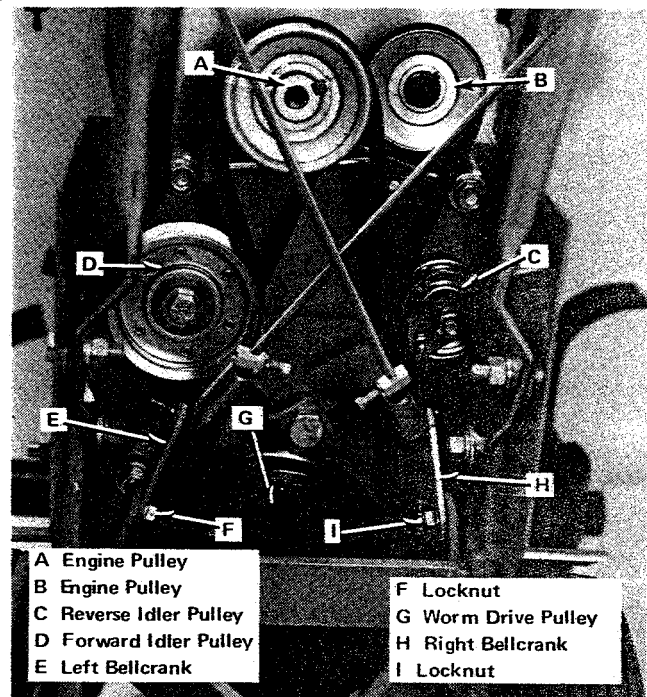

Figure 13. Drive Belt Replacement
1. Loosen the two belt stops at the large worm drive pulley (item G, figure 13) as needed.
1. With the outer V-belt already removed, unhook both control rod springs from the bellcranks (items E and H, figure 13).